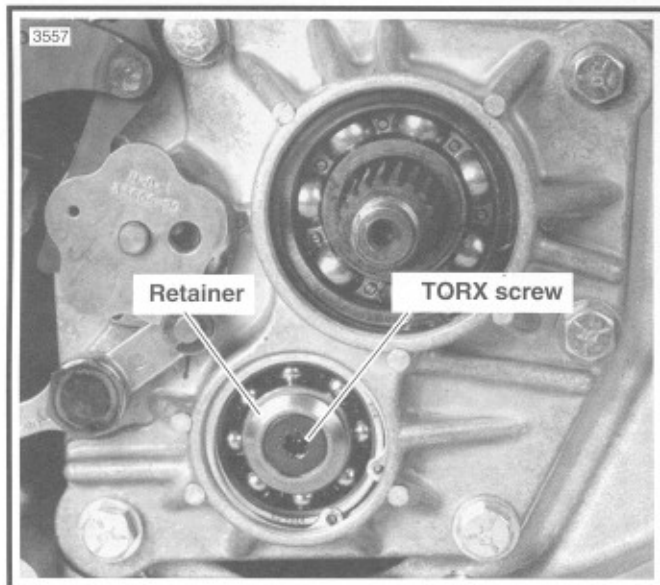

Figure 6-21. Countershaft Retainer
- See Figure 6-21. Lock transmission in gear. Remove countershaft Torx screw and retainer.